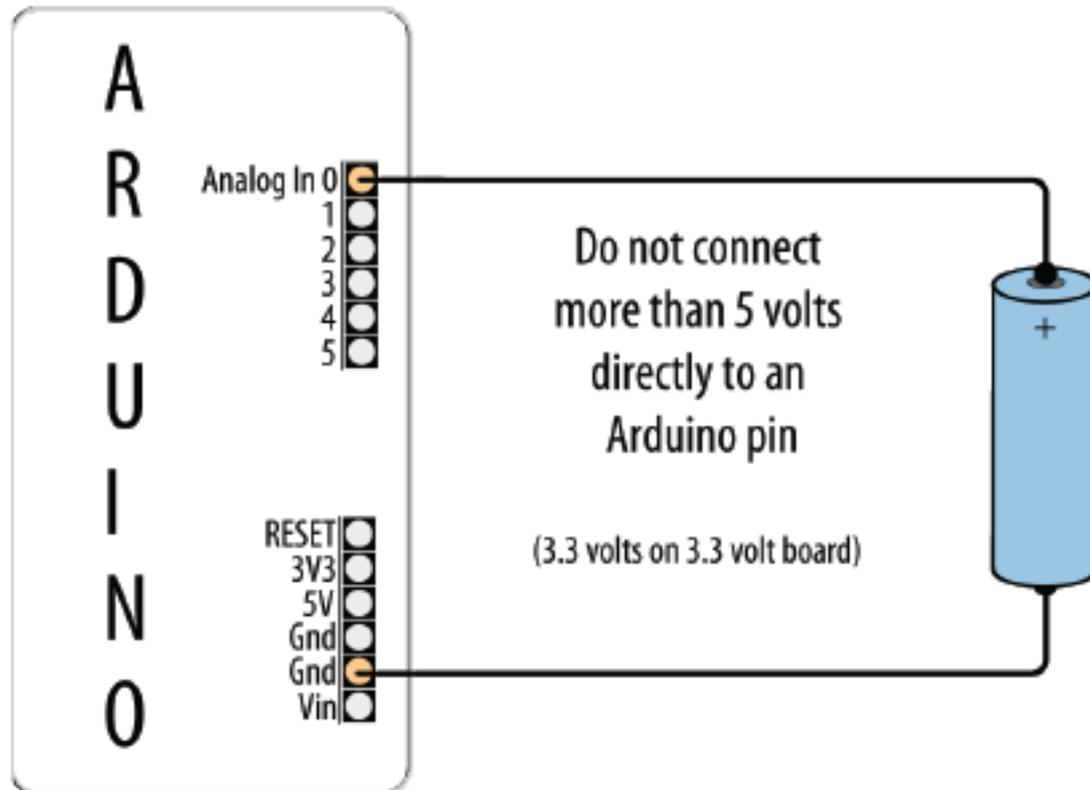

Figure 5-9. Measuring voltages up to 5 volts using 5V board
- Use `AnalogRead` to measure the voltage on an analog pin. Convert the reading to a voltage by using the ratio of the reading to the reference voltage (5 volts), as shown in Figure 5-9.